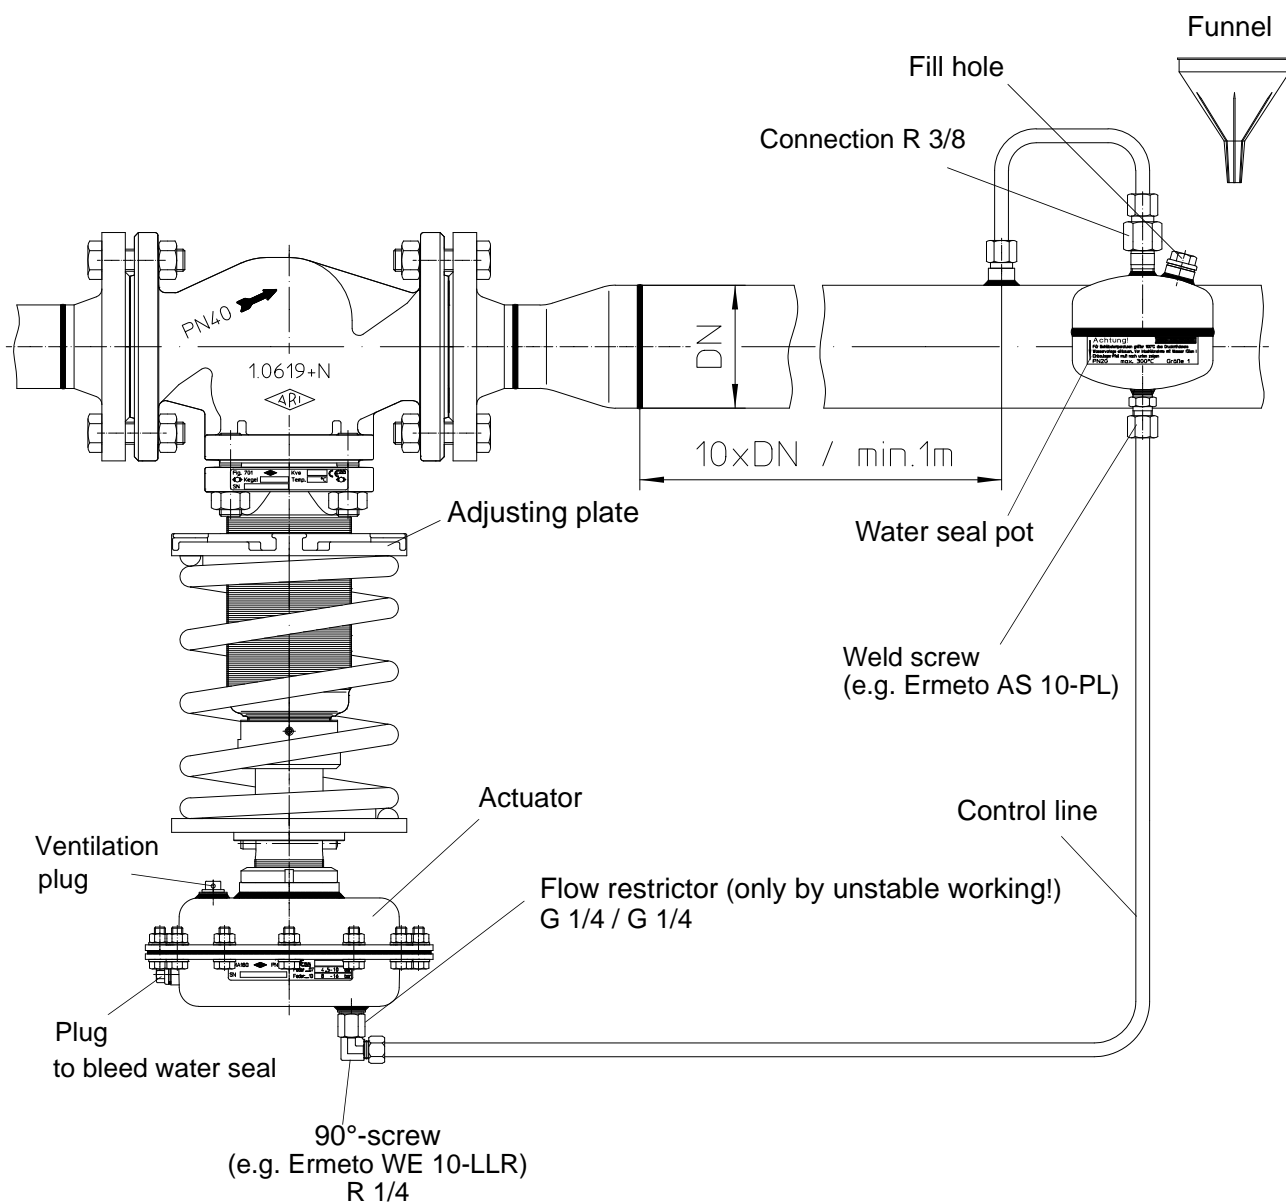

Fig. 5
- The water seal pot is completely filled (by steam with water) and the actuator is bled by the plug (refer to Fig. 5).